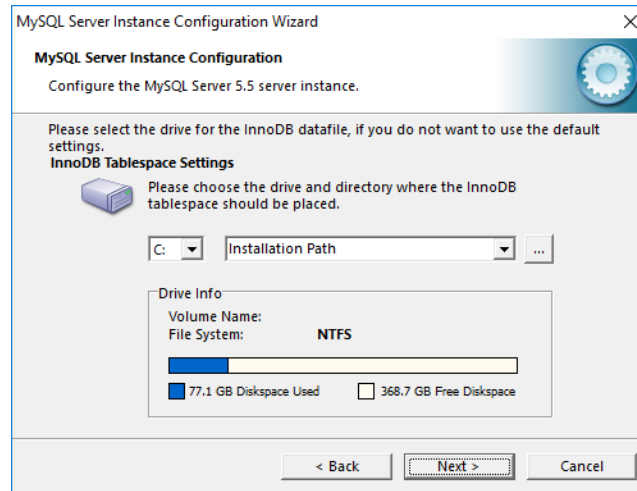

Figure A11
5. Select the location for the database file, or leave at the default location and click "Next". (Figure A11)